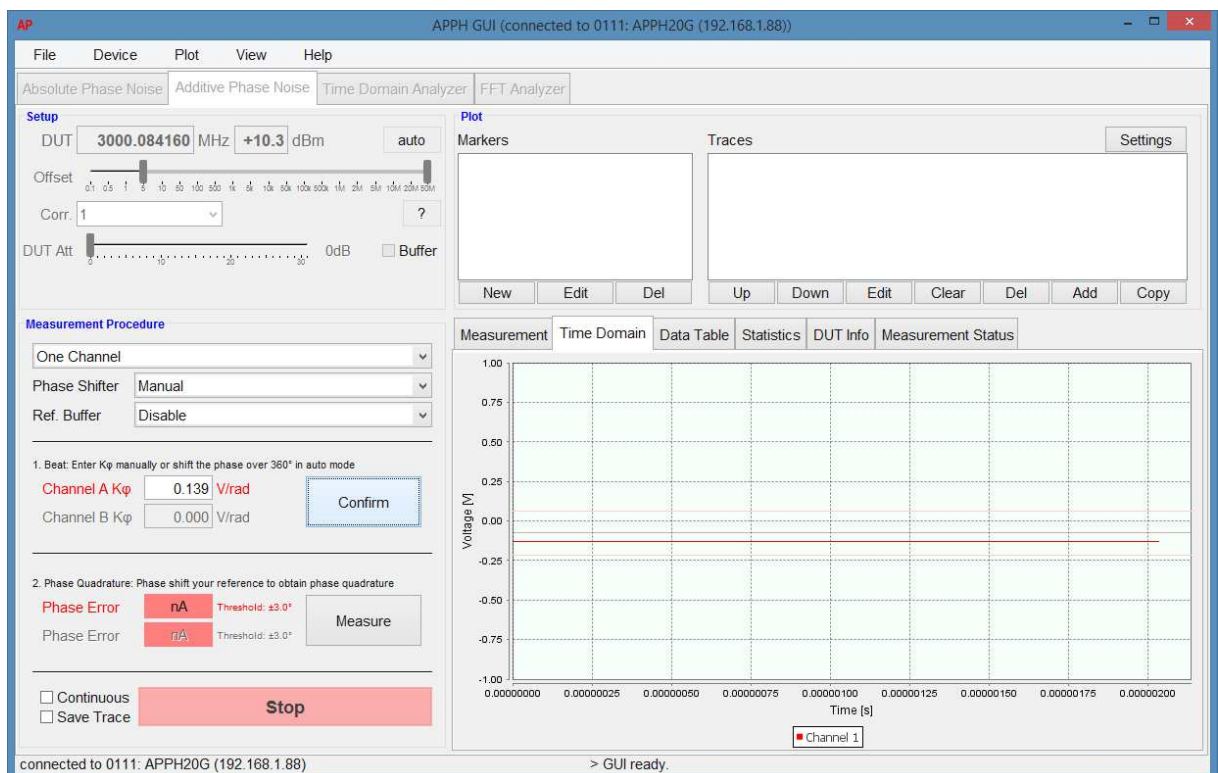

Figure 4: Rotating phase at the phase detector using the phase shifter will determine phase detector constant of the measurement setup
- 3) Once the setup is completed, the calibration procedure is started by clicking on the first "Measure" button. Using the phase shifter, the phase is now rotated continuously over 360 degrees to determine the phase detector constant (see Figure 4). Complete the calibration step by clicking on the corresponding "Confirm" button.